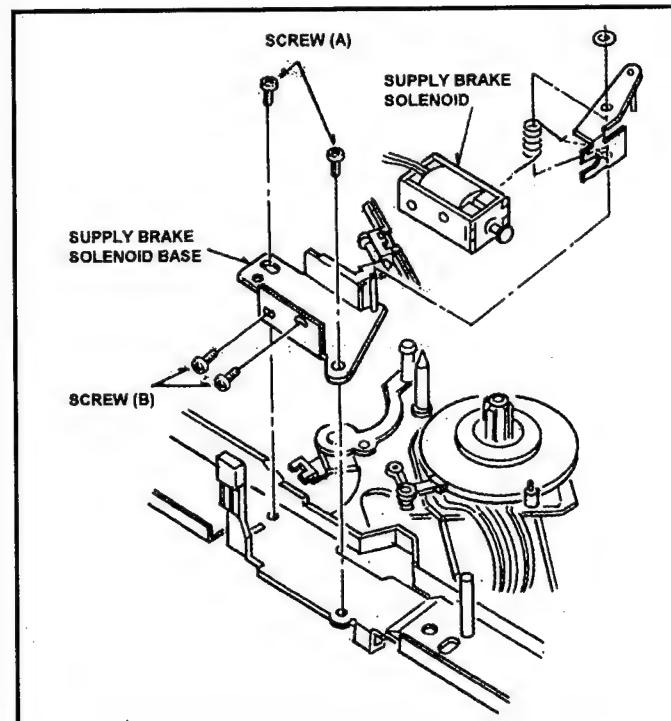

Fig. 4-10-1. Removal of Supply Brake Solenoid
1. Remove the Mechanical Unit (Refer to item 2-1, Removal of Mechanical Unit).
3. Unscrew the 2 screws (A) and remove the Supply Brake Solenoid Base Unit as shown in Figure 4-10-1.
4. Unscrew the 2 screws (B) and remove the supply Brake Solenoid from Supply Brake Solenoid Base Unit as shown in Figure 4-10-1.